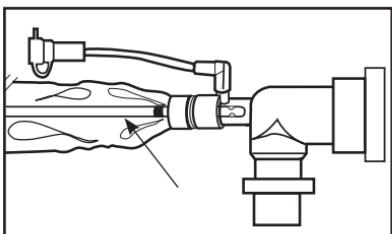
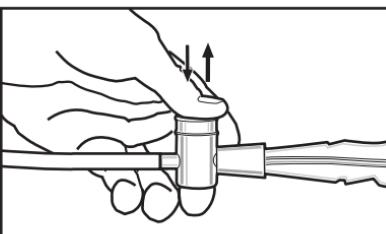

Fig. 5
Fig. 6
2. Introduce fluid slowly into the port, simultaneously depress the thumb control valve (**Fig. 6**).
3. Continue to irrigate until catheter is clear (**Fig. 5**).
3. Intermittently depress and release thumb valve (**Fig. 6**) until the catheter and chamber are clear (**Fig. 5**), or until the vial is empty.
3. Intermittently depress and release thumb valve (**Fig. 6**) until the catheter and chamber are clear (**Fig. 5**) or until vial is empty.